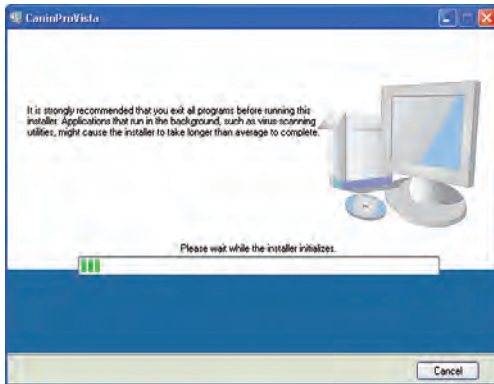

Fig.1 Setup Initializing
- The window in Fig.1 will appear. Wait